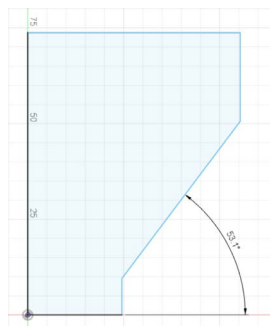

Fig. 3
► Fig. 3 Using sketch dimensions to define overhang angles